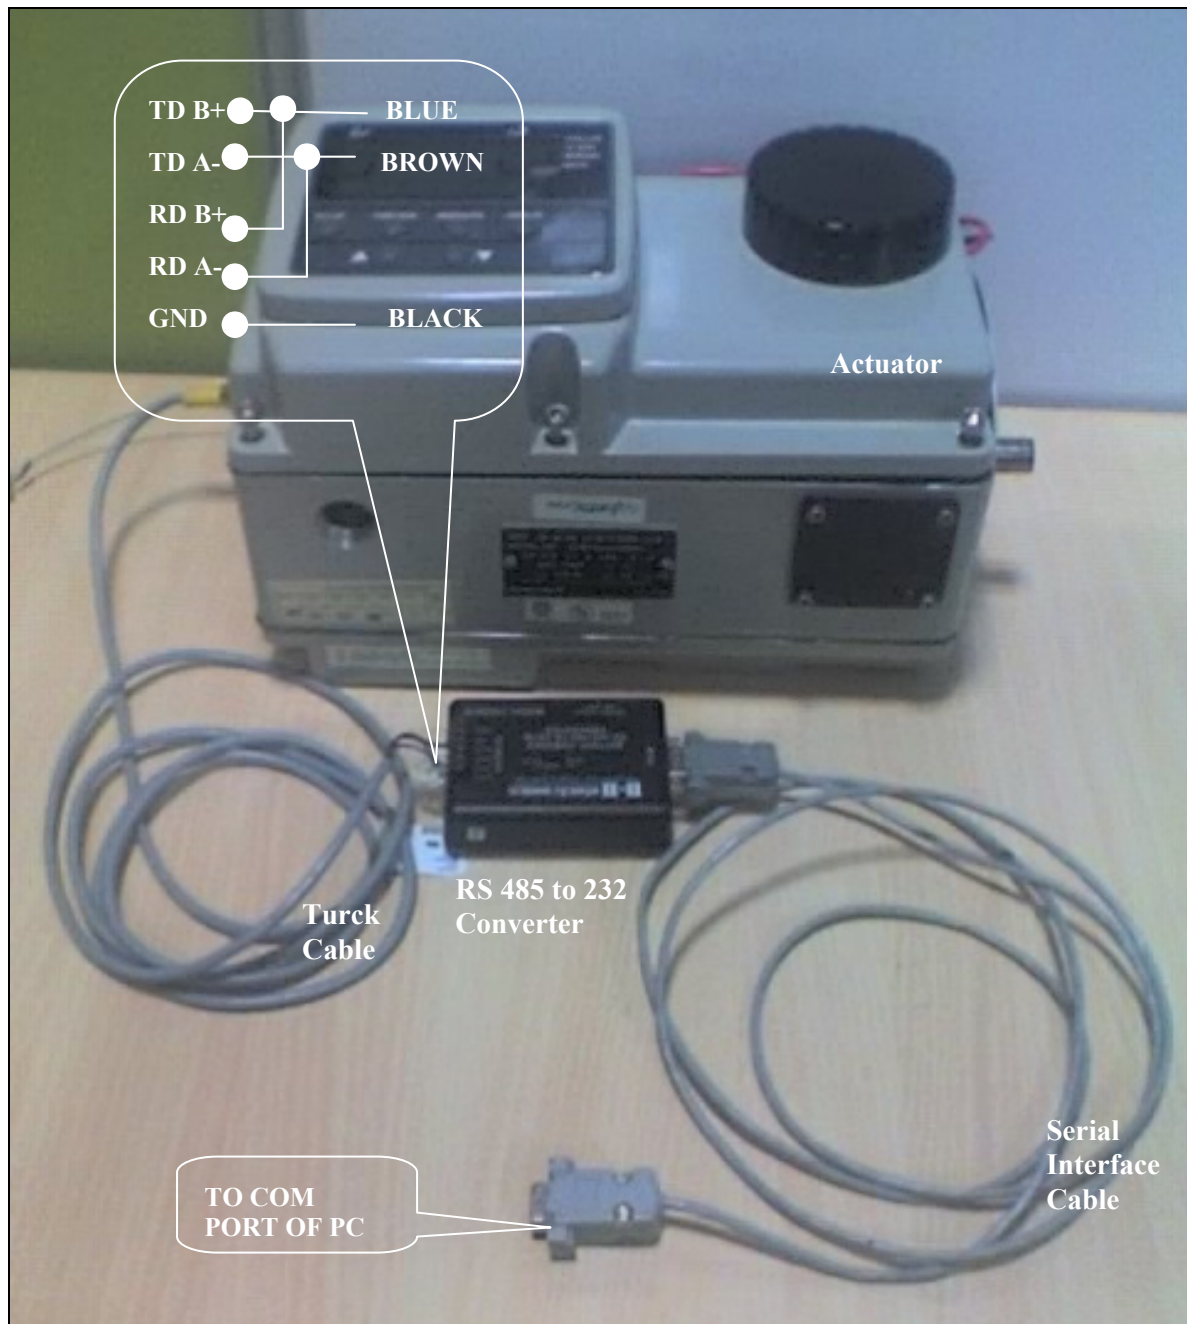
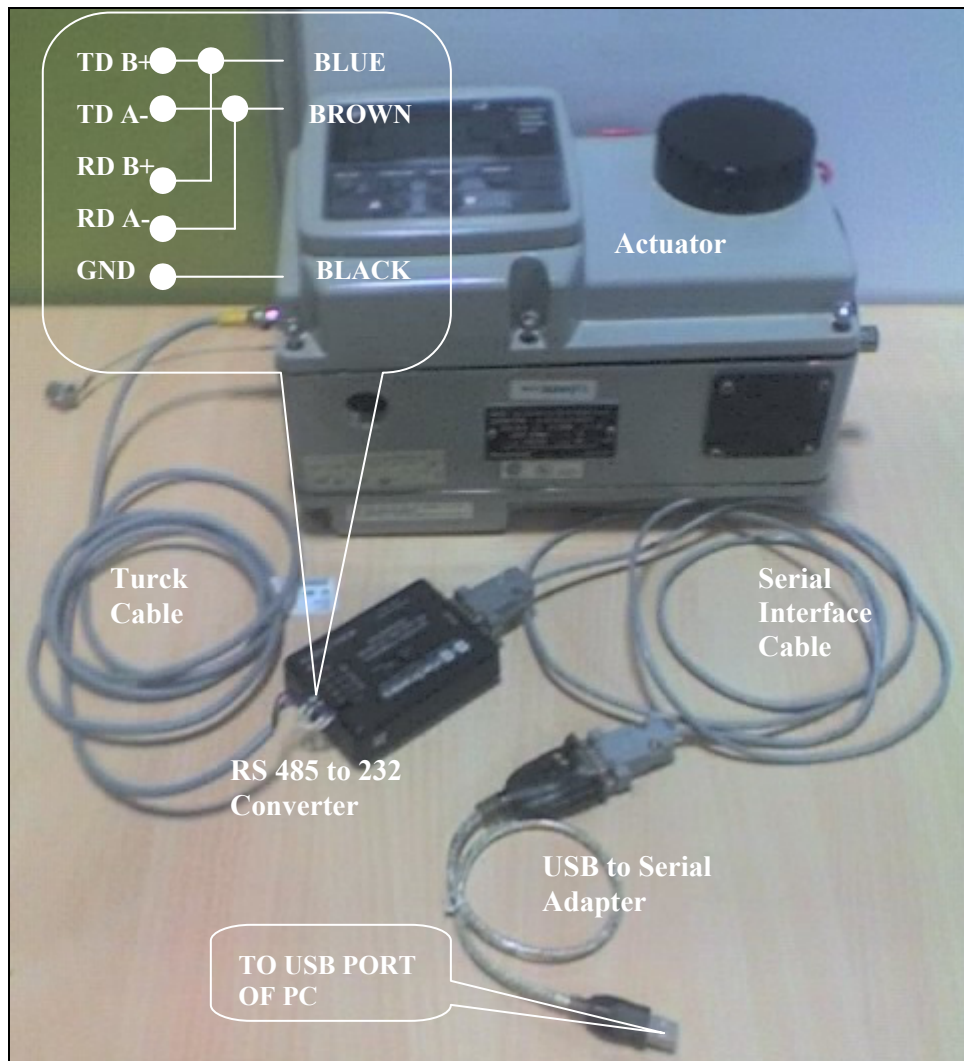

Figure 1 PC connection to actuator
Figure 2 PC connection to actuator using an USB to serial adapter
3	Connect PC to actuator Starting at the PC and working toward the actuator, connect as follows: *USB – 232 Converter (Recommended Model is Manhattan #205146) Note: Needed in case there is no serial port on the PC else start from Step 2. 2. Serial interface cable (Cross cable) 3. B & B Electronics RS-422/485 to Palm / PC converter (model 485BAT3) (which can be used as RS 485 –RS 232 converter). Set DIP switches to 485 and Echo OFF. 4. Turck cable (part # RK4T) See Figure 1 or Figure 2
***Note:** If you are using a PC without a serial port, the actuator can be connected using an USB to serial adapter. This adapter creates a virtual serial port, which can be used to connect to an actuator similar to a normal COM port. It is illustrated in Figure 2. Figure 3 shows how another serial port gets added by a USB to a serial adapter which can be seen in the device manager.